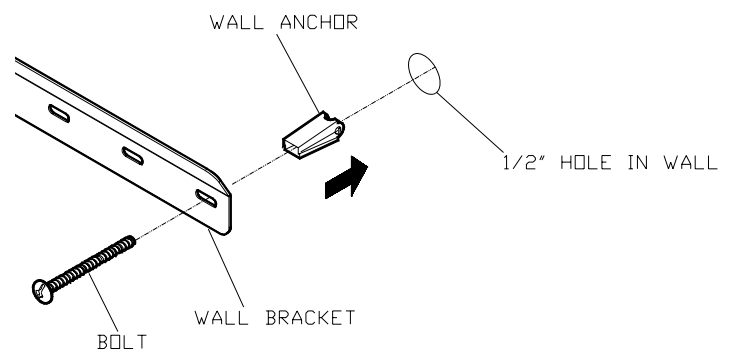

FIGURE 2
13. Insert the wall anchor screws through the wall bracket and thread into the wall anchors. The screws should extend beyond the wall anchors. (FIGURE 2)
14. Squeeze the wall anchor together and insert the wall anchors into the  $\frac{1}{2}$ " holes in the wall. Tighten the screws. (FIGURE 2)